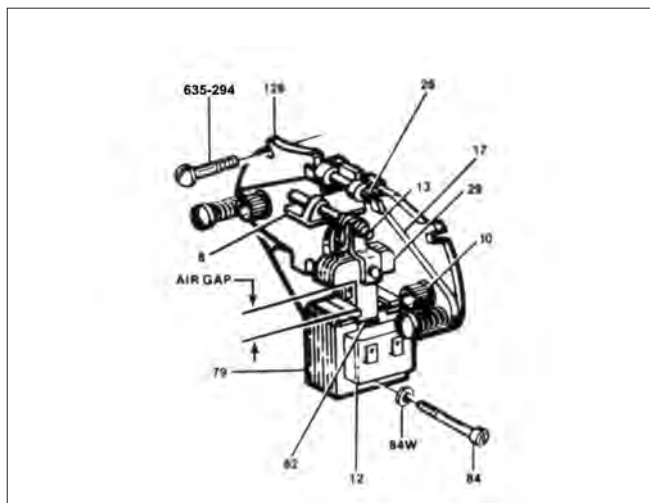

Figure 8. Motor Brake Adjustment.
The motor brake should be checked periodically for wear of the friction discs and/or proper adjustment of the solenoid air gap. Refer to Figure 8. Normal lining wear will cause the solenoid lever (8) to move away from the solenoid frame (79) and thus increase the air gap and trolley stopping time.
(Refer to Figure 8 on this page and Figure 15 on page 17)